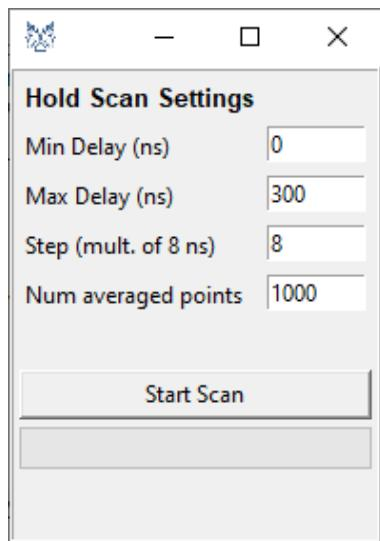

Fig. 10.39: "Hold Delay Scan" window.
3. Click on the Hold Delay Scan button in the Janus Icon Bar  . A window similar to that in Fig. 10.39 will appear and the values of the following parameters should be set by the user: